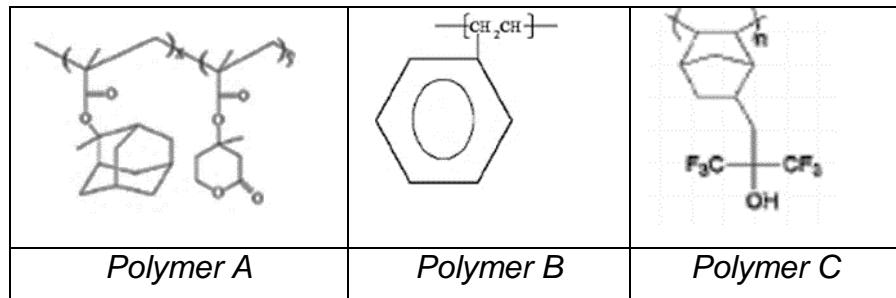

Figure 2: Structure of photoresist
- (c). Three (3) types of polymer photoresists are given in Figure 2. Assign the possible wavelength technology of 157 nm, 193 nm and 248 nm for each of the structure. Explain your choice.
*Tiga (3) jenis polimer fotoresis diberi seperti dalam Rajah 2. Padangkan teknologi jarak gelombang 157 nm, 193 nm dan 248 nm bagi setiap struktur ini. Jelaskan pilihan anda.*